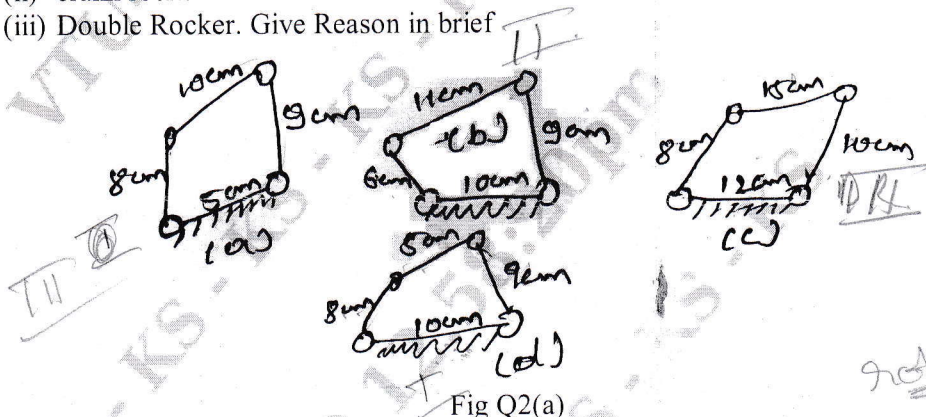

Fig Q2(a)
- 2 a. Some of the 4 bar linkages are shown in Fig Q2(a) where the number indicate the respective link in Lengths in 'cm'. Identify the nature of each mechanism whether